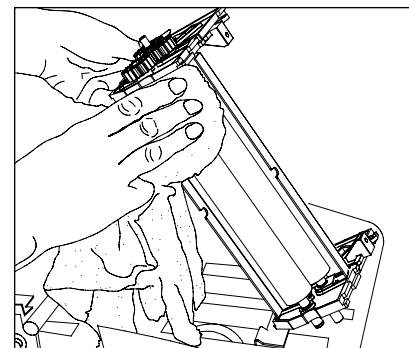

Fig. 19
- Clean the exposed rollers by spraying Martin Yale Roller Cleaner and Rejuvenator onto a clean cloth and wiping until all contaminants are removed. Turn the rollers with the large pulley to get all the roller surfaces (**Fig. 19**). Alcohol or a mild soap and water solution may also be used. Avoid getting cleaning solutions into the bearing surfaces. If the fold rollers become glazed or shiny, it may be necessary to return them to a dull luster by using a lightly abrasive non-metallic scouring pad. **Never use metal pads such as steel wool or sand paper, as the shavings or grit will damage the roller and bearing surfaces.**